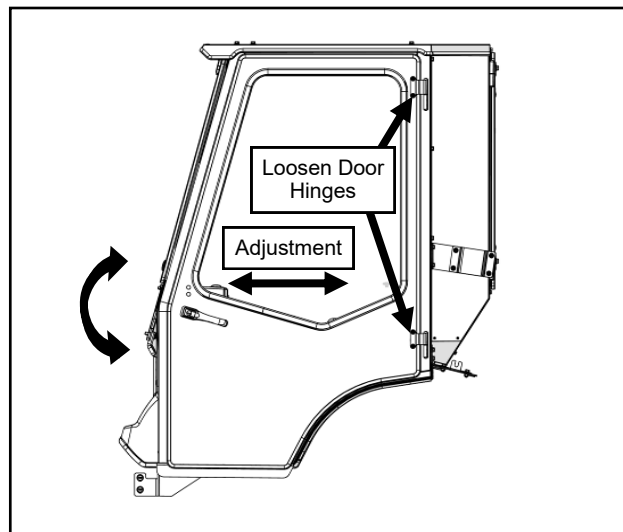

Fig. 22.3a (Door Hinge Adjustment)
22.3 Loosen the door hinges to allow for adjustment later. While lifting up and forward on the door handle, line up the door latch with the striker pin and carefully attempt to latch. You should be able to hear 2 clicks as you slowly engage the latch on the pin. If the latch is too far forward or back to latch on the pin, adjust as shown. See Figures 22.3a through 22.3c. Then retighten and latch.